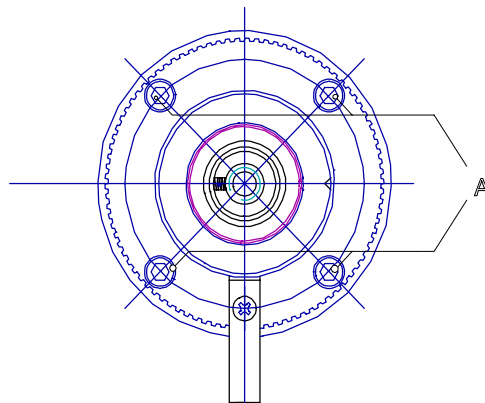

Figure 5.9 - Reagent rotor adjustment
- 6) When this is not the case, adjust the rotor by means of the four clamping screws **A**, see figure 5.9.